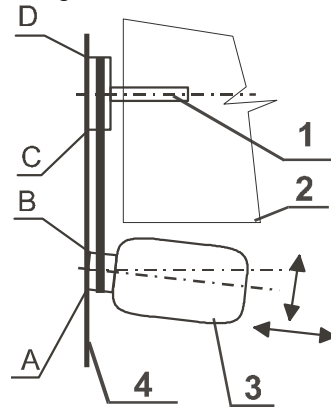

Figure 5.9. 505 539
Do the inspection of the alignment by means of a ruler (figure 5.9., pos.4) with placing it on the pulley faces.